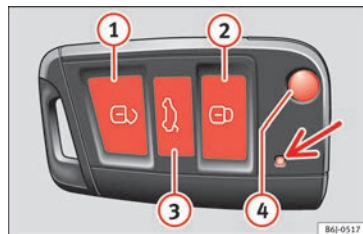

Fig. 114 Assignment of buttons on the remote control key.
By using button  **Fig. 114** on the control, the key shaft is released.
Unlocking the vehicle  **Fig. 114** .
Locking the vehicle  **Fig. 114** .
Unlocking the rear lid. Press button  **Fig. 114**  until all the turn signals on the vehicle flash briefly. When the unlocking button   is pressed, you have 2 minutes to open the door. Once this time has passed, it will lock again.
Moreover, the battery indicator on the key **Fig. 114** (arrow), will flash.
- Press the  button  **Fig. 114** on the remote control.